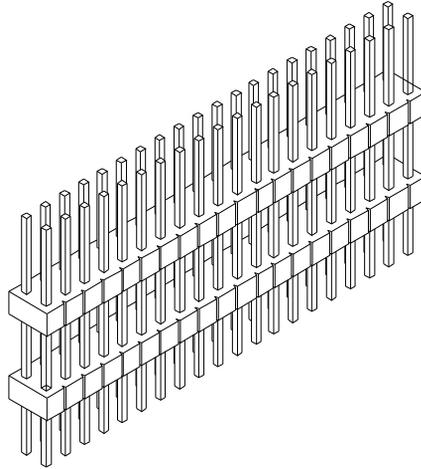

FIG. 30 40 PIN BOARD STACKER
- Step 1. Plug the 40 pin board stacker into the J11 header on the PROFIBUS board. (See Figs. 30 & 31)